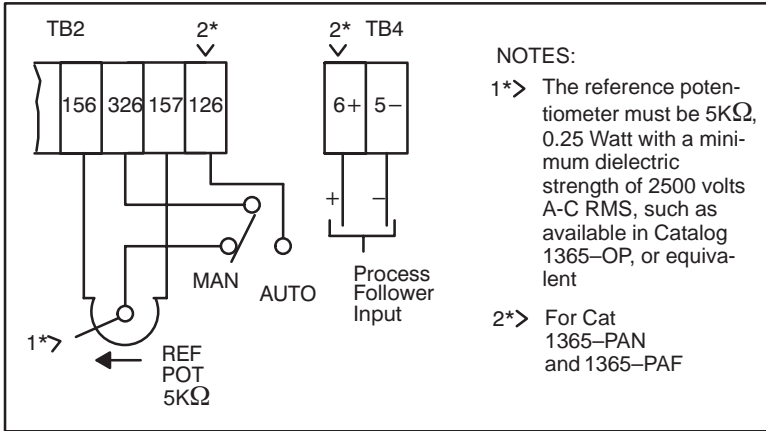

Figure 3-7. Reference Signal Connection.
4. Connect a 5K ohm, 0.25 watt pot having an insulated operator shaft and knob, such as Available in Catalog 1365–OP or equivalent, as shown in Figure 3-7.
3. Wire the process control signal to terminals TB4(6+) and TB4(5–). See Figure 3-7.
4. Wire the process control buffered output TB2-126 to TB2-326. See Figure 3-7.
5. Wire the Automatic/Manual switch, if required, as shown in Figure 3-7.